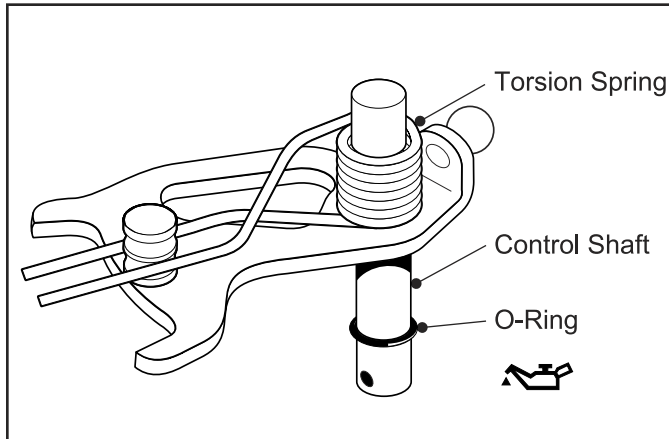

Fig. 12, Control Shaft/Torsion Spring Assembly
1. Install a new O-ring onto the Control Shaft. (Fig. 12)